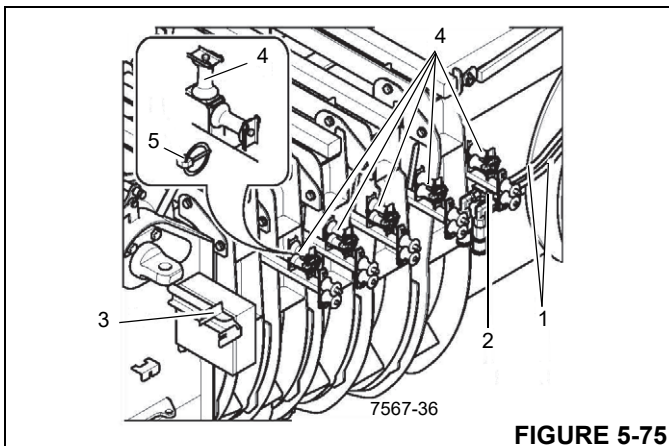

FIGURE 5-75
1. Loosen the hinged pins (5, Figure 5-75) and fold up the guide sheaves (4).
2. Detach the strain relief from the holder (3) and attach it to the holder (2).
3. Fold down the guide sheaves (4) and secure them with the hinged pins (5).